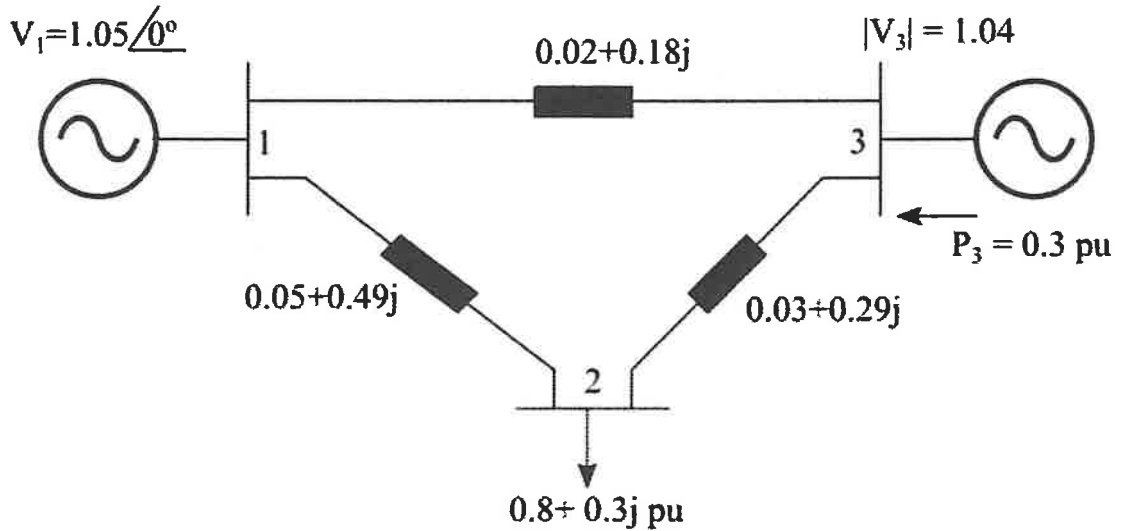

Figure Q3.
- b) Consider the three-bus power system shown in Figure Q3. Bus 1 is the slack bus, Bus 2 is a PQ bus, and Bus 3 is a PV bus. The line impedances and bus data are provided in the figure. All quantities are expressed in per unit on a common base of 100 MVA.